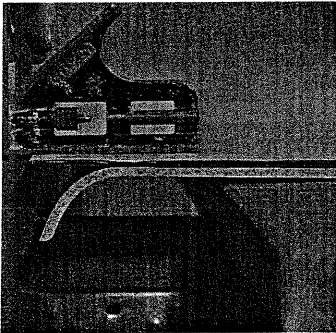

Figure 5
**Align the edge of the template 1/4-inch beyond the curved edge of the panel** with your carpenter’s square. See figure 5. This is to compensate for the thickness of back wall panels.